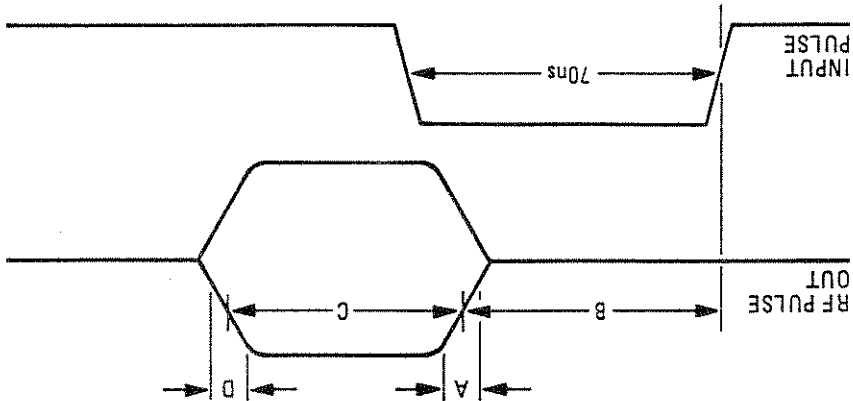

Figure 8. Pulse Performance Parameters
10. Measure the rise time, fall time, pulse delay, and pulse width compression as shown in Figure 8. Note that pulse width compression is the difference in width between the input pulse and the resulting RF pulse.